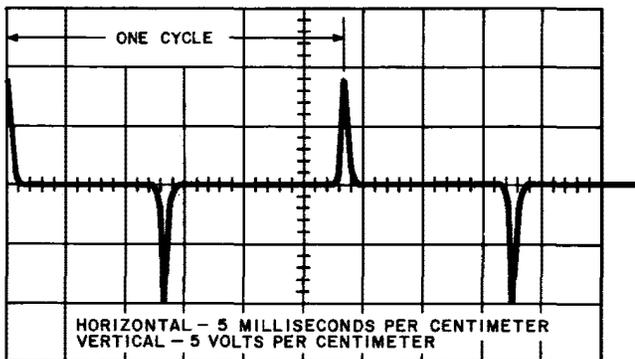

Fig. 5—Reluctance Pickup—34.5- to 35.5-Hz Output
**2.05 Over Speed Detector (CP8):** The OSD, EL21 furnishes a "1" signal pulse at TP2 (terminal 2) when the pulsed signal at the input to the PS, EL23 (pins g and x of P1) reaches or exceeds a repetition rate of  $35 \pm .5$  Hz (see Fig. 5 and 6). The signal input consists of a series of positive and negative pulses which are approximately 9 volts in amplitude and approximately 0.4 millisecond in pulse width. The  $35 \pm .5$  Hz repetition rate of this input signal corresponds to an engine speed of  $2100 \pm 30$  rpm.